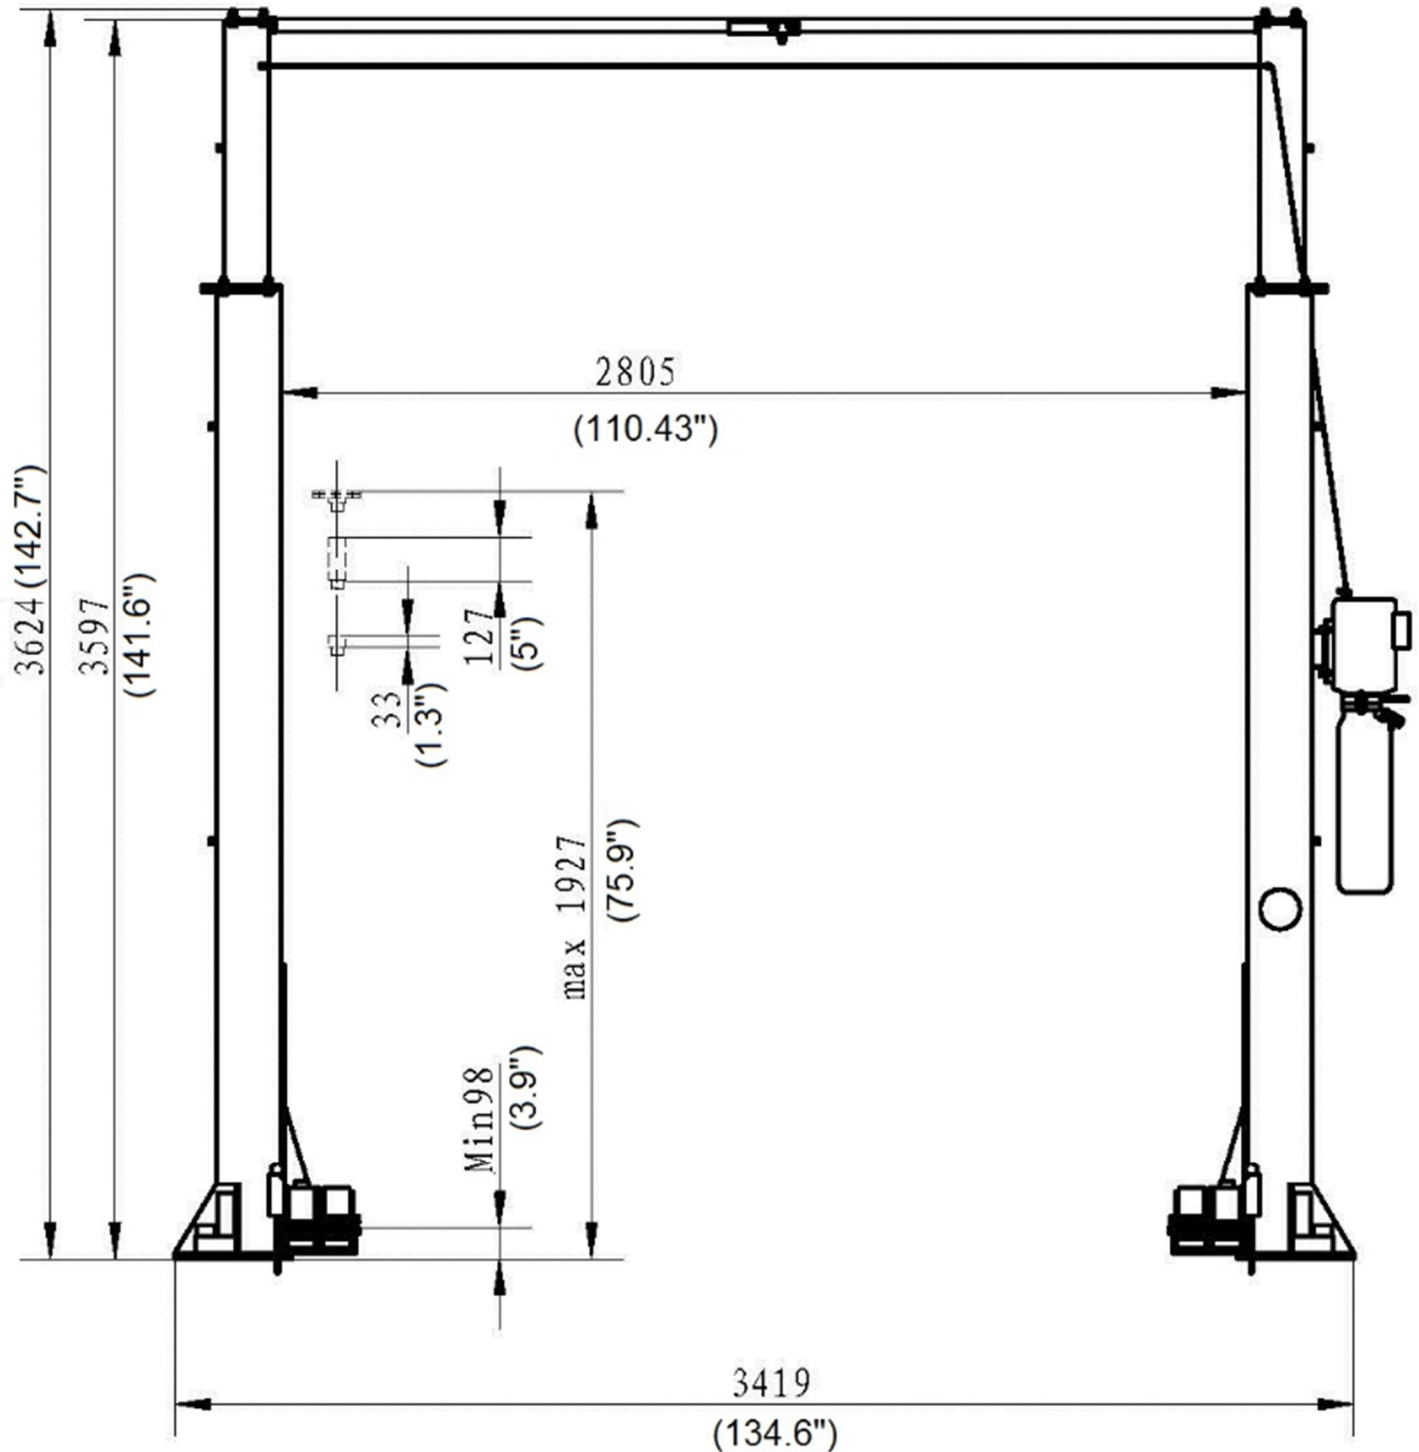

Fig. 2
1. **LIFT LOCATION:** Always use architects plans when available. Check layout dimension against floor plan requirements making sure that adequate space is available (**Figs. 2, 3 & 4**).
2. OVERHEAD OBSTRUCTIONS: The area where the lift is located should be free of overhead obstructions such as heaters, building supports, electrical lines, etc. **(Fig 2.)**